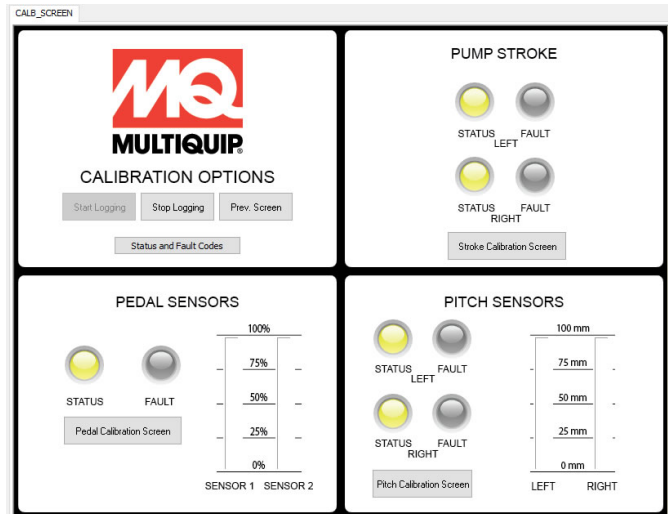

Figure 34. Calibrate Pump Stroke
4. Click "Stroke Calibration Screen" button in PUMP STROKE section (Figure 34).